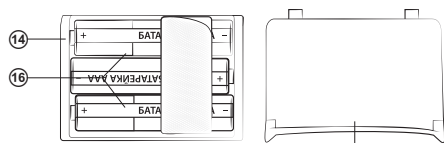
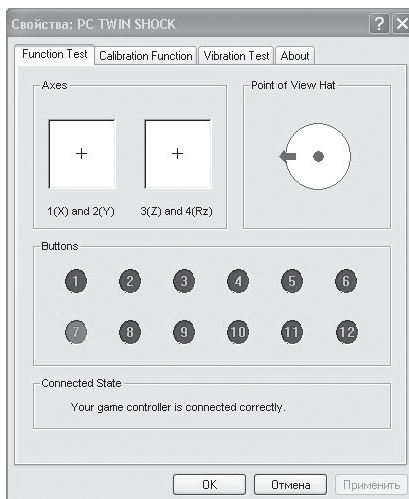

Fig. 4
Fig. 6
• After installation of batteries (Fig. 4), connect 2,4GHz Nano receiver via USB cable ⑱ to available USB port of your PC. After connection to your PC, device is automatically detected as a game controller and is fully ready for use. However, for Vibration Feedback function it is necessary to install drivers. Calibration of second joystick is also impossible without installation of drivers.
• Change POWER ON/OFF switch ⑬ into ON position. For connection of Gamepad and Nano receiver press FC button ⑲ of Nano receiver, the connection indicator ⑳ will light up, then press FC button ⑤ on the game controller. There is also another way for connection of Gamepad and Nano receiver: press FC button FC ⑲ of Nano receiver, then press at the same time combination of buttons «9+11» on the gamepad and hold these buttons for 15 seconds. Attention should be paid that Nano receiver and gamepad will be disconnected, if a gamer presses one of «9+11» buttons after connection has been made.
• Insert Software CD disk into your PC CD Rom and start setup.exe for installation of drivers. For testing and setting the game controller choose Start → Control Panel → Game Controller. There will open up Properties: PC TWIN SHOCK (Fig. 6) on your desktop.
- Click Function Test (Fig. 6) to test axes and buttons.